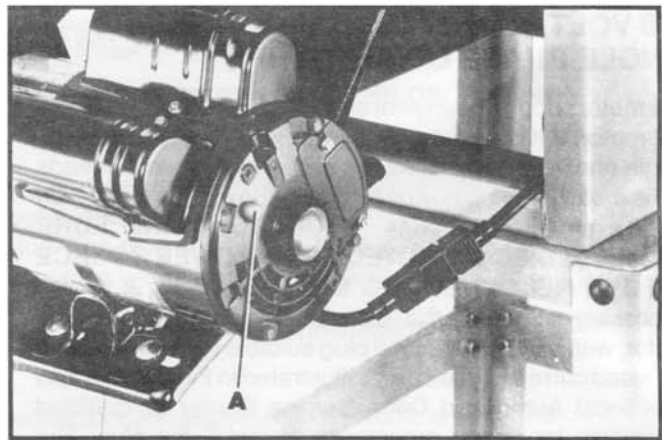

Fig. 43
The motor recommended for use with your saw is equipped with a reset overload relay button (A) Fig. 43. If the motor shuts off or fails to start due to overloading (cutting stock too fast, using a dull blade, using the saw beyond its capacity, etc.) or low voltage, turn the switch to the "OFF" position, let the motor cool three to five minutes and push the reset button (A), which will reset the overload device. The motor can then be turned on again in the usual manner.